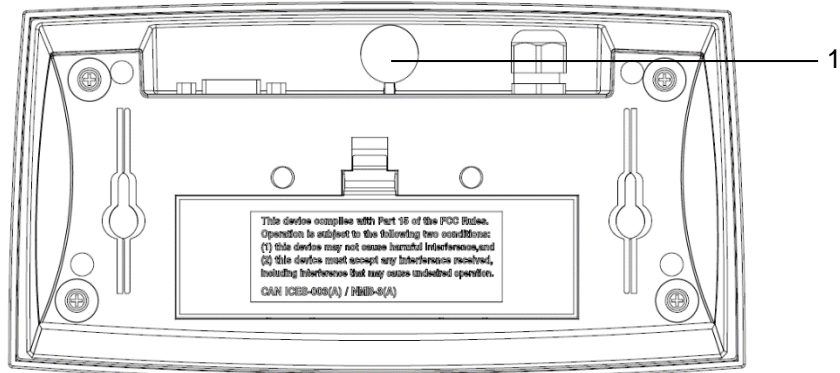

Figure 5-2 Defender 2500 Paper Sealing
- Paper sealing: affix the sealing paper on the countersunk screw shown as Figure 5-2.